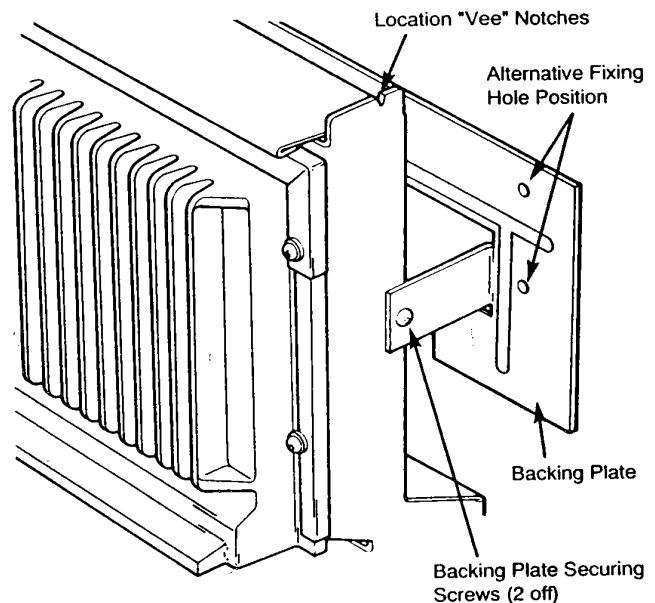

Fig. 5 Backing Plate
1. Fit the fire backing plate to the fire using the M5 x 8mm thread forming screws provided (Fig.5).
3. Mark the position of the most suitable pair of securing holes in the fire backing plate (Fig.5) and remove the fire. Drill and plug the wall with suitable plugs. Replace the fire and secure to the wall with suitable fixing screws.
3. Mark the position of the most suitable pair of securing holes in the fire backing plate (Fig.5) and remove the fire. Drill and plug the wall. Replace the fire and secure to the wall with the two fixing screws provided.
- Lift the outercase over the heat exchanger and locate the two 'vee' notches in the top of the case into the 'vee' notches at the top of the inner case (Fig.5).